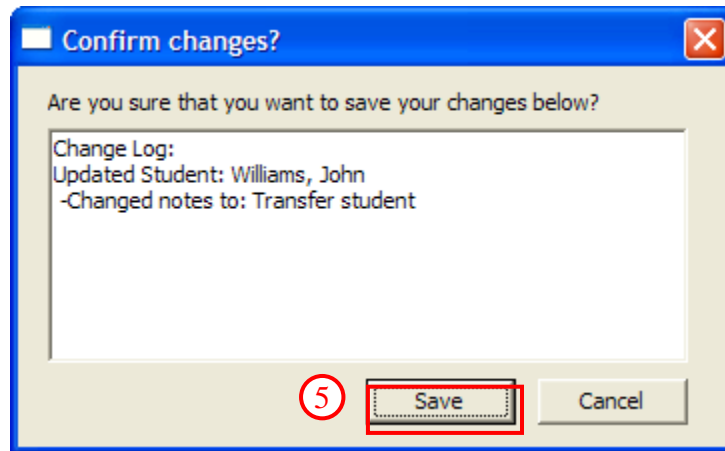

Figure 52. Confirm Additions - Changes Dialog
5. A prompt is displayed detailing the addition/changes (Figure 52). Click the [SAVE] button to confirm.